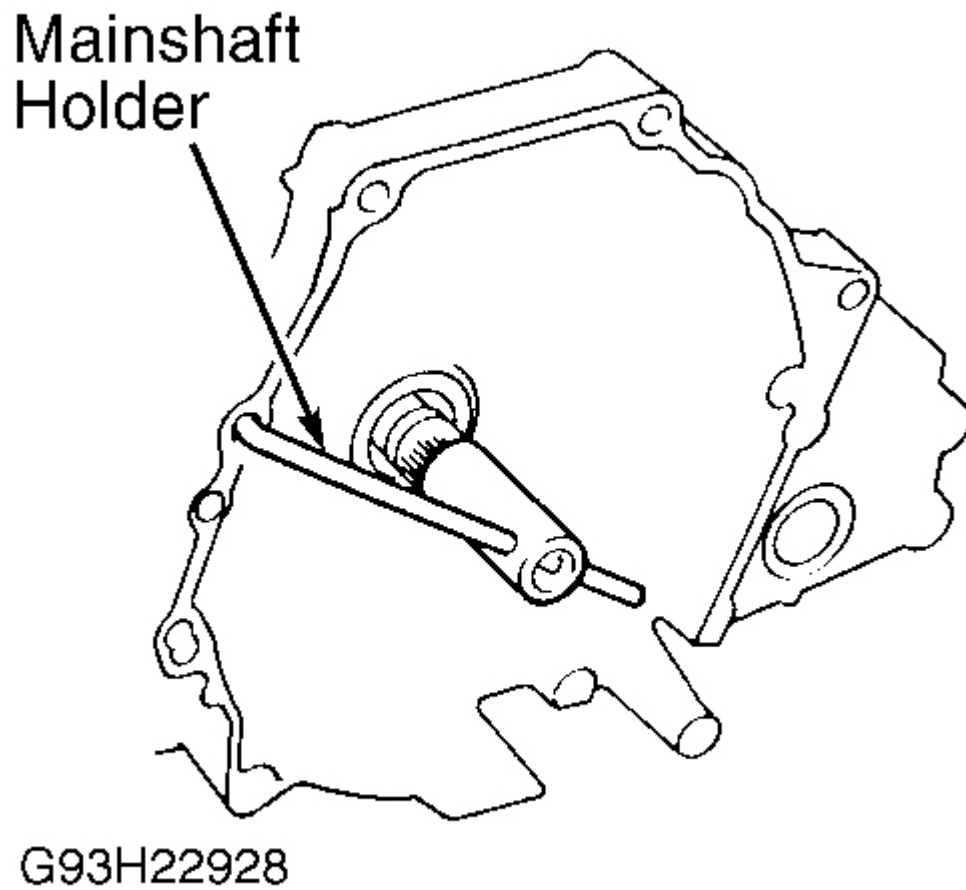

Fig. 6: Installing Mainshaft Holder
1. Remove A/T gear position switch cover and switch from left side cover. Remove mainshaft speed sensor harness connector from bracket. Remove 16 left side cover bolts and remove cover. See **Fig. 6**.